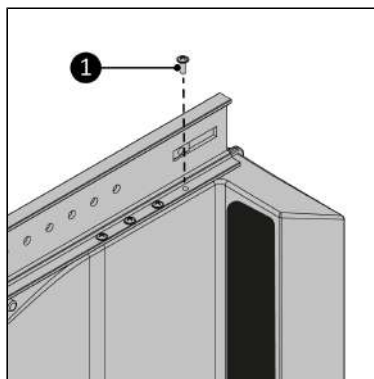

Figure 96.
5. Screw the main rail to the Way-out using the eight 3,5 x 12 mm screws (Figure 96, pos. 1). Make sure all screw holes match up.